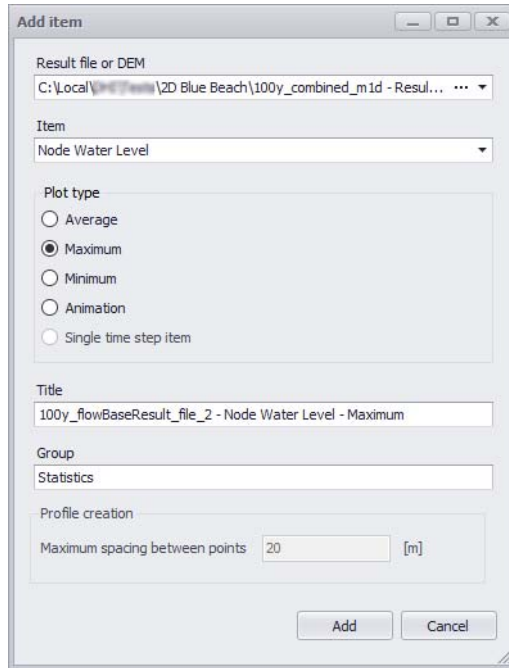

Figure 20.36 The 'Add item' dialog where the result file and items to add to the profile plot are defined
- Specify the result file, item, and data type to add to the profile plot on the 'Add item' dialog that appears (Figure 20.36).